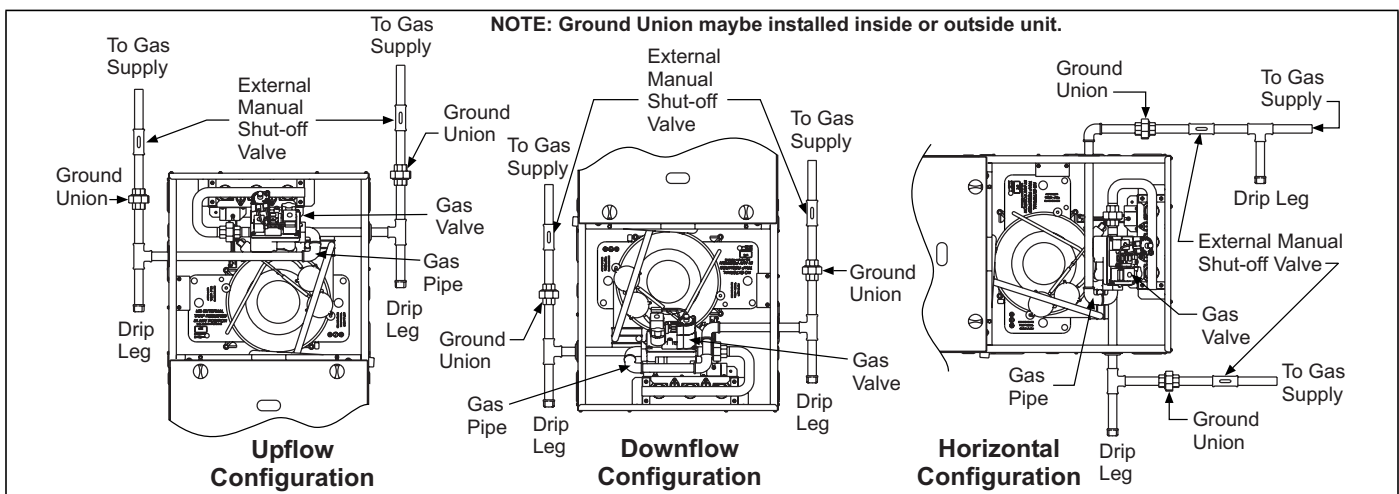

FIGURE 12: Gas Piping
2. Remove the wiring box cover screws. Route all power wiring through a conduit connector or other proper bushing that is field installed into the unit opening and the junction box. In the junction box there is a black wire, a white wire and a green ground screw. Connect the power supply as shown on the unit's wiring label located on the inside of the blower compartment door, or the wiring schematic in this section. Connect the black wire to L1 (hot) from the power supply. Connect the white wire to neutral. Connect the ground wire (installer-supplied) to the green (equipment ground) screw. An alternate wiring method is to use a field-provided 2" (5.1 cm) x 4" (10.2 cm) box and cover on the outside of the furnace. Route the furnace leads into the box using a protective bushing where the wires pass through the furnace panel. After making the wiring connections, replace the wiring box cover and screws. Refer to Figure 12.
3. The furnace's control system requires correct polarity of the power supply and a proper ground connection. Refer to Figure 12.